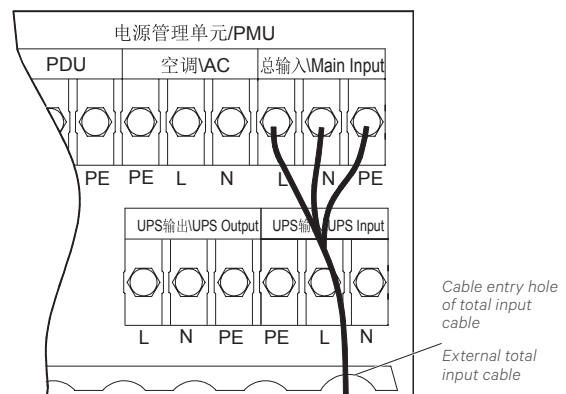

Figure 2-9 Connecting total input cable
- Open the cover plate on the back of the PMU, connect the made cable to the total input position on the PMU connecting terminal block, as shown in Figure 2-9.